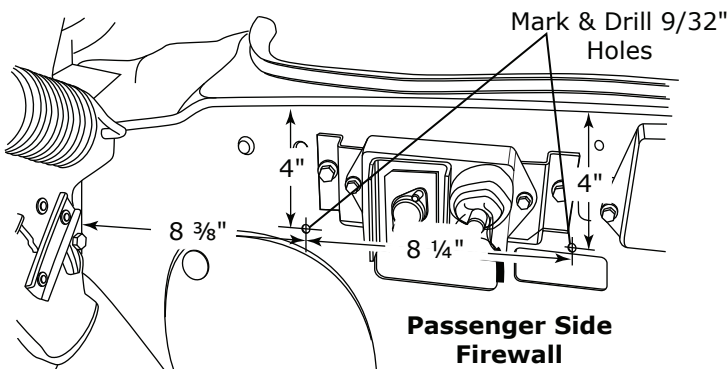

Figure 10b
2. Mark and drill (2) 9/32" holes for driver/passenger side evaporator rear mounting bracket in firewall (See Figure 10b, Page 11).